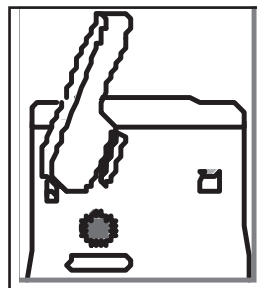

Fig. 1
2. Pull up on the magnetic lid lifter until it locks in the up position, then gently lift the can opener lever to the upright position as shown in Figure 1.